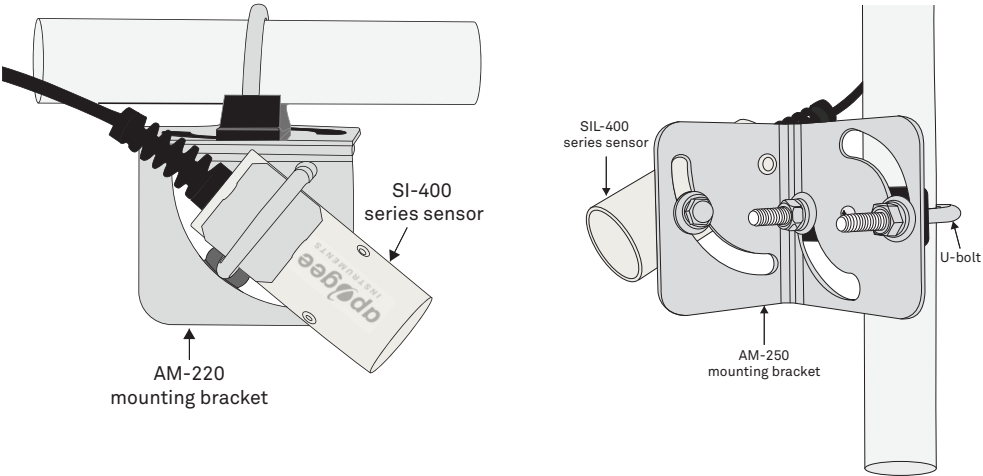

Figure 2 Apogee IR sensor and mounting bracket
- Attach the sensor to the mounting bracket using the included U-bolt or straight bolt (Figure 2).